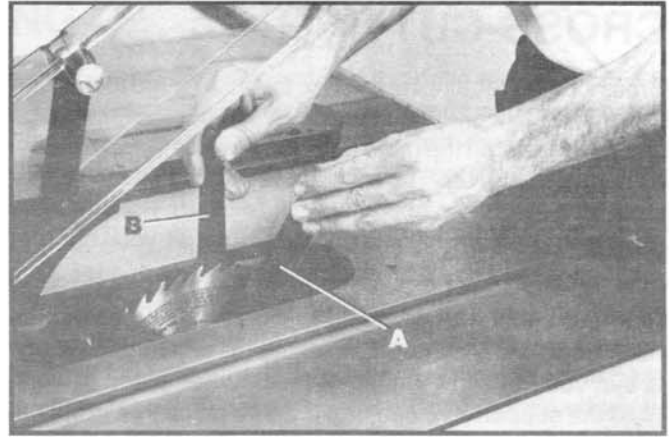

Fig. 54
4. Place the open end wrench (B) Fig. 54, on the flats of the saw arbor to keep the arbor from turning, and using wrench (A) turn the arbor nut toward the front of the saw. Remove arbor nut, blade flange and saw blade.
5. Assemble the new blade, making certain the teeth pointing down at the front of the saw table and assemble outside blade flange and arbor nut. With wrench (B) Fig. 54, on the flats of the arbor to keep it from turning, tighten arbor nut by turning wrench (A) clockwise.